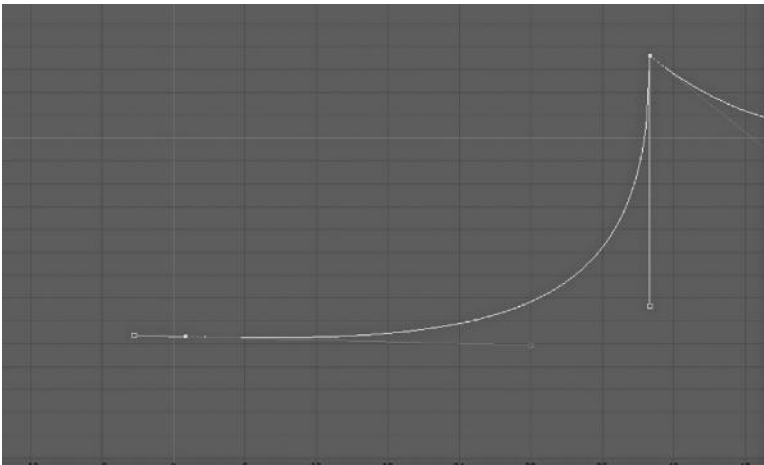

FIGURE 5.30 Weighted tangents allow extreme and custom acceleration and deceleration to occur without extra keyframes.
**Tangent weights**—In the more standard, non-weighted mode, the tangent handles have a fixed length, which makes only a certain combination of curve shapes possible between keyframes. Many times this is all that is required, and the default of most programs is to either not use tangent weights at all or have them disabled. Some software packages, however, allow you to make use of weighted tangents, which allows for far greater flexibility in tweaking and customizing your animations. Once tangent weighting is enabled, the tangent weights must be “freed” and you will be able to adjust the length of the tangent handles to create quite exaggerated motion curves, which are essential in creating certain effects like “hang-time” for objects that are jumping or thrown upward, or rapid acceleration curves (Figure 5.30).